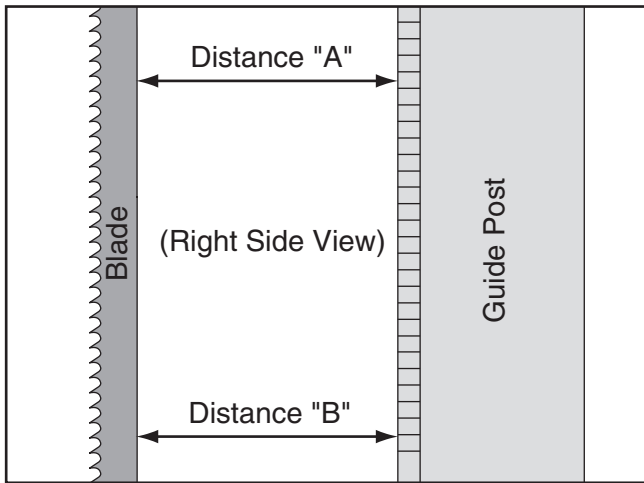

Figure 83. Example of measuring distance between rack and blade at top of guide post.
4. Measure the distance "A" between the top front face of the guide post rack and the back of the blade (see **Figure 83**).
5. Measure the distance "B" between the bottom front face of the guide post rack and the back of the blade (see **Figure 83**).